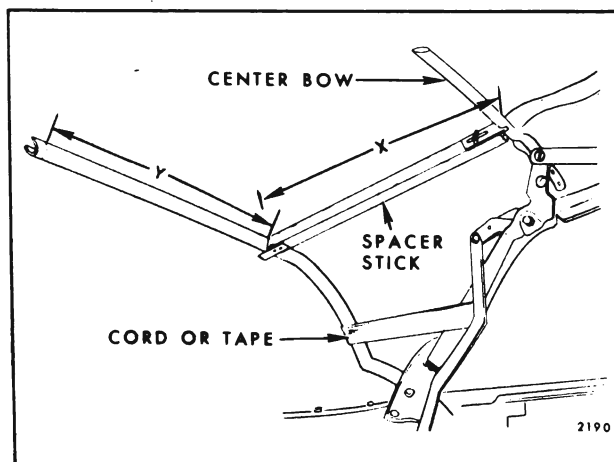

Fig. 13-10 - Spacer Stick Installation
24. Lock top to windshield header. Install radius end of each adjustable spacer stick to fit against center roof bow. Install opposite end of spacer stick so that metal plate fits under rear roof bow. Spacer sticks should be installed along inboard edge of side stay pad (Fig. 13-10).
NOTE: The approximate dimension for location of spacer sticks, measuring outboard from centerline dimple of rear roof bow is approximately 17" for all body style (See Dimension "Y" in Fig. 13-10).
26. Temporarily tie or tape rear bow to rear side roof rails. (See Fig. 13-10.) Detach nylon webbing, side stay pads and back curtain assembly from rear bow.
1. If new top is being installed but it was impossible to perform step 24 of removal procedure, pre-set spacer sticks to shortest length and install between center and rear roof bow (Fig. 13-10). Adjust sticks so that dimension "X" in Figure 13-10 (measured along spacer stick from front upper rolled edge of rear roof bow to center of center bow) is $16 \frac{1}{16}$ " on "B & C" Styles, $13 \frac{3}{16}$ " on "F" Styles and $15 \frac{1}{4}$ " on "A" Styles. Tie or tape rear bow to rear side roof rails.